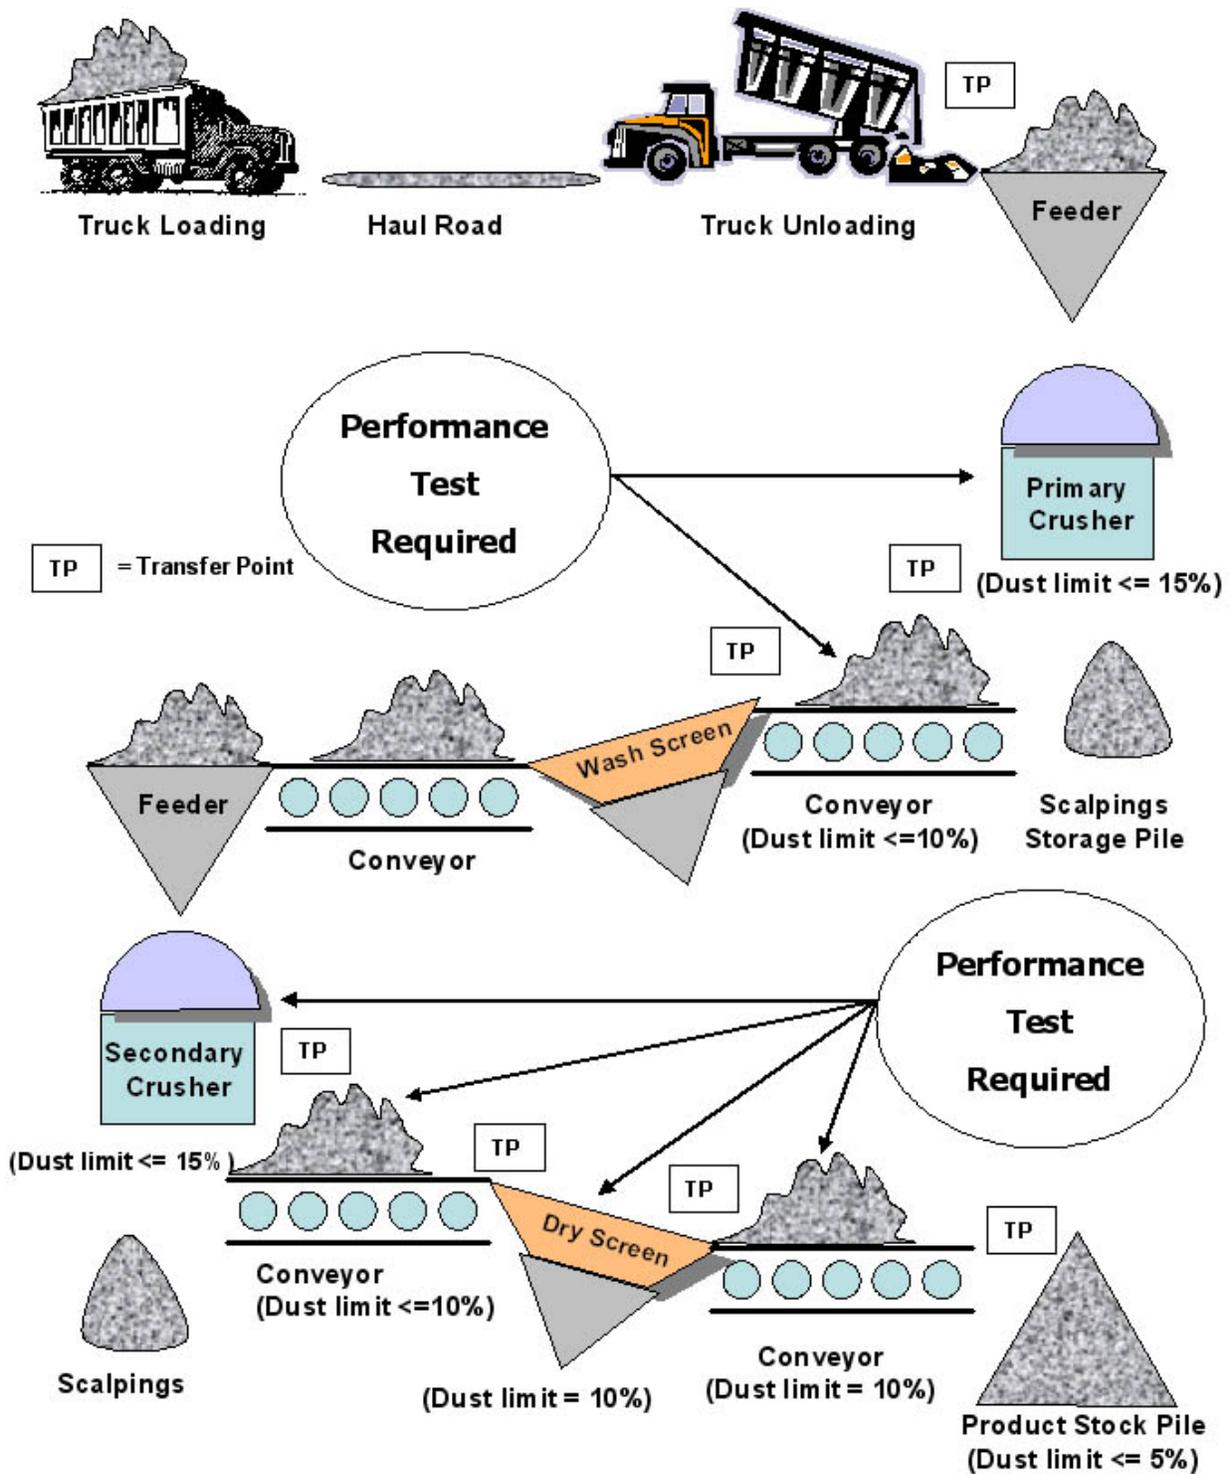

Figure 1-2: Determining What Equipment in a Fixed or Portable Crushing Facility Requires a Performance Test
- Within 60 days of achieving the maximum production rate but no later than 180 days after you initially start up the crusher and its associated equipment, conduct the required visible emission performance test (see Figure 1-2).